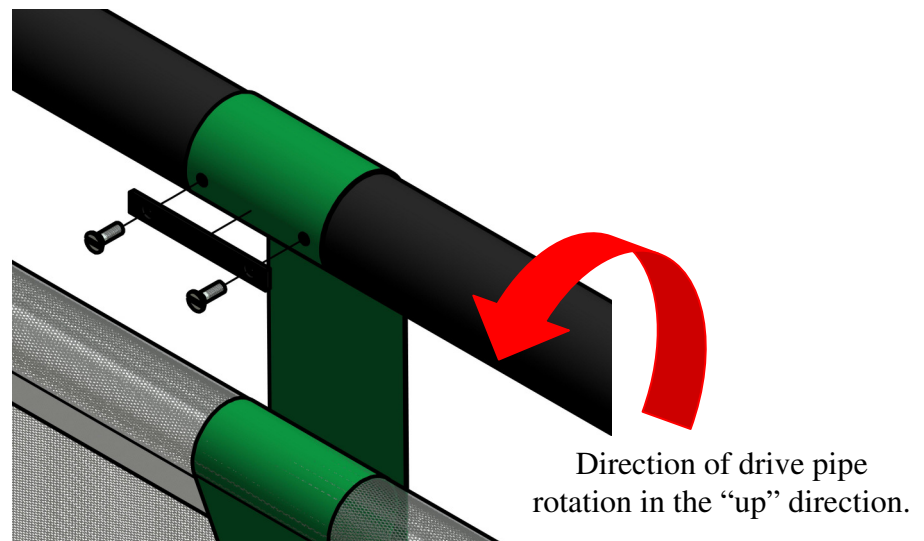

Figure 6. Properly routed belt.
1. Verify which direction your drive pipe will rotate when the hoist is on in the “up” direction. This will determine to which side of the drive pipe the belt will be attached. **Make certain that the belt comes over the TOP of the drive pipe when the curtain is moving in the “up” direction; refer to figure 6.**
Make sure belt rolls over the top of the tube when raising the curtain. **DO NOT** allow belt to roll under the tube. Refer to Figure 6 for proper direction of roll.